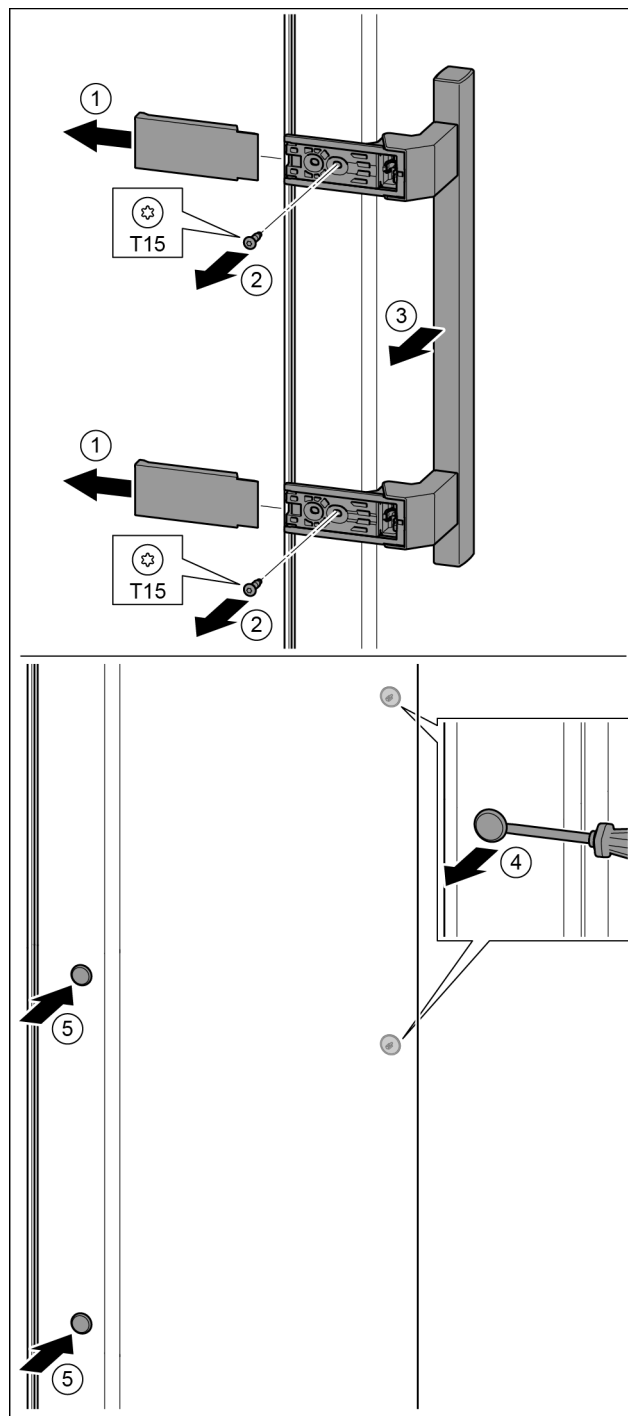

Fig. 21
- Pull off the cover. *Fig. 21 (1)*
- Remove the screws with the T15 screwdriver. *Fig. 21 (2)*
- Remove the handle. *Fig. 21 (3)*
- Carefully lift up the side plugs with a slotted screwdriver and pull them out. *Fig. 21 (4)*
- Insert the plugs again on the other side. *Fig. 21 (5)*